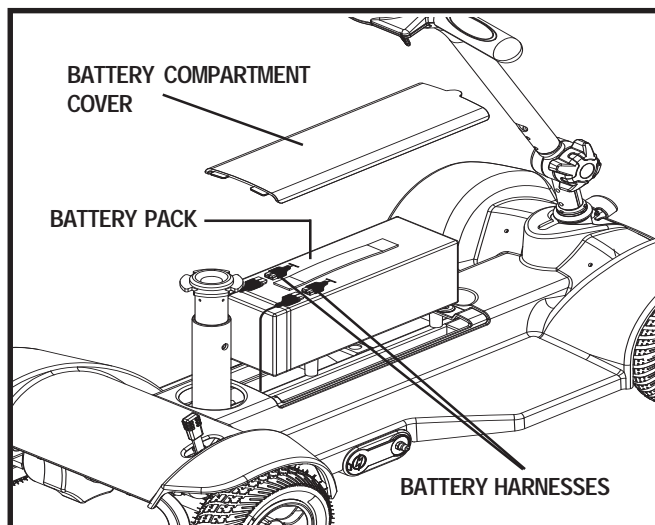

Figure 13. Battery Pack Removal
3. Remove the battery compartment cover. See **figure 13**.
4. Insert the batteries into the battery pack, making sure the battery harnesses extend through the opening in the battery pack. See **figure 13**.